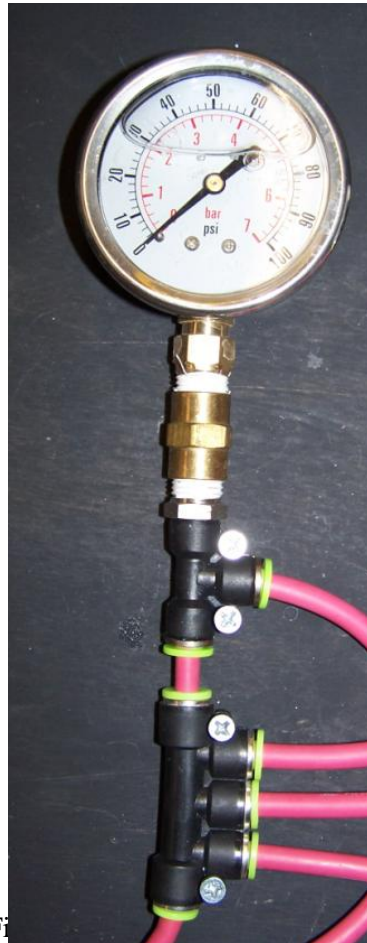

Figure 27: Pressure Gauge Assembly
The pressure gauge (19), brass coupler (20), three-port manifold (24) and five-port manifold (23) need to be assembled as seen in Figure 27. Pipe tape is required for all pipe threads if none already have pipe tape. Use manifold screws (25) to secure both manifolds. You may also want to secure the pressure gauge with a bracket (21) and screws (22), which should be placed around the brass coupler.